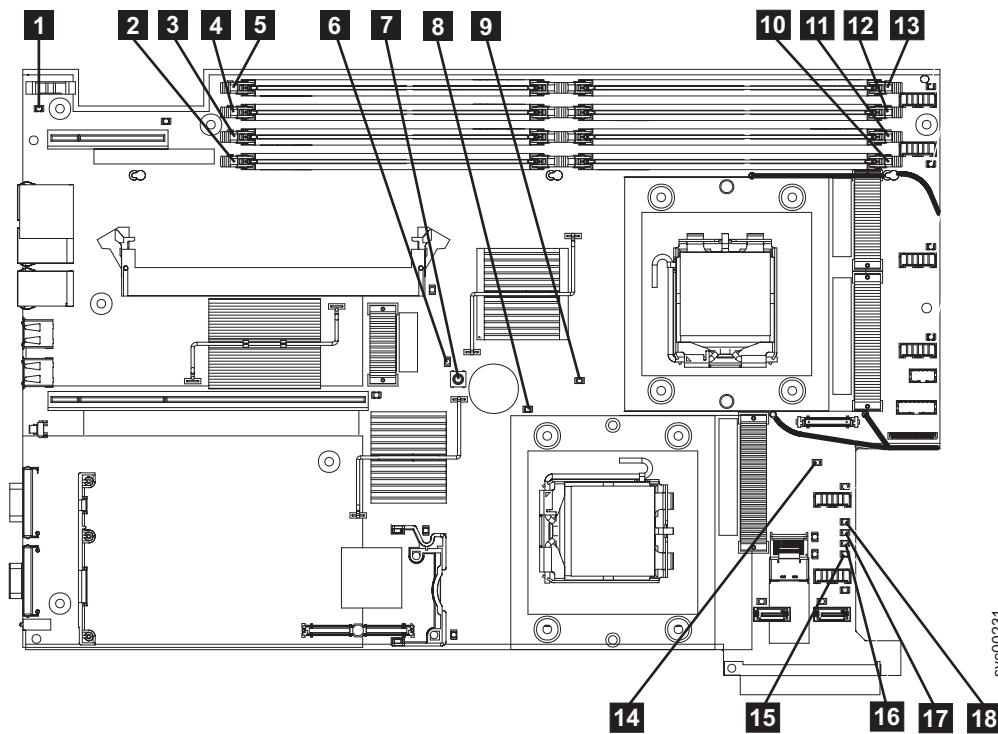

Figure 100. SAN Volume Controller 2145-8G4 system board LEDs
the state of LEDs on the system board. Figure 100 shows the location of the system board LEDs. The fan LEDs are located adjacent to each FAN. To view the LEDs you will need to do the following:
- d. Press the light path diagnostics button (**7** in Figure 100).